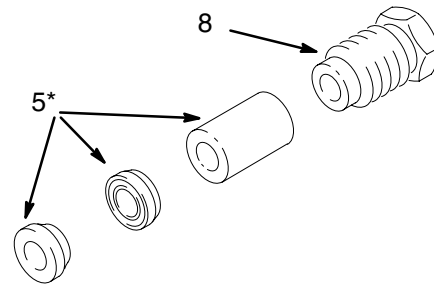

Fig. 24
4. Unscrew the packing screw (8) from the adapter (4) with the gun tool (28).
5. Using a mechanical pick, push the three fluid packings (5) out of the adapter (4). Be careful not to damage the adapter. Discard the old fluid packings.
6. Place the new fluid packings (5) and packing screw (8) onto the needle (13). See Fig. 24 for the orientation of the parts.